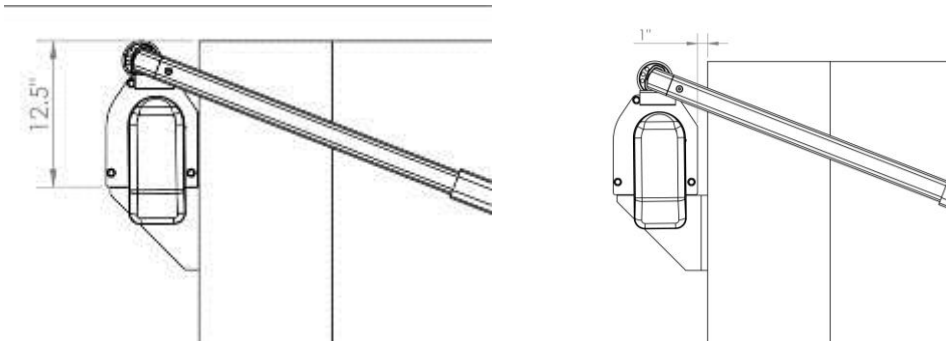

Figure 5
This Housing is made to be mounted out on the front of the trailer on top of the gussets (part # 36855) provided with it. These gussets are reversible – this allow you to Mount the housing flush with the front of the trailer or to space the housing out 1" from the front of the trailer if need be (see Figure 5.)
- 1) Determine the height at which you want to mount the housing. The gussets can be mounted flush with the top of the trailer or as far as 13" down. Mounting the top of the gusset 12.5" down from the top of the trailer will get the tarp arms completely below the top of the trailer when in the un-tarped position, hence adding no height to your trailer (see Fig. 5.)